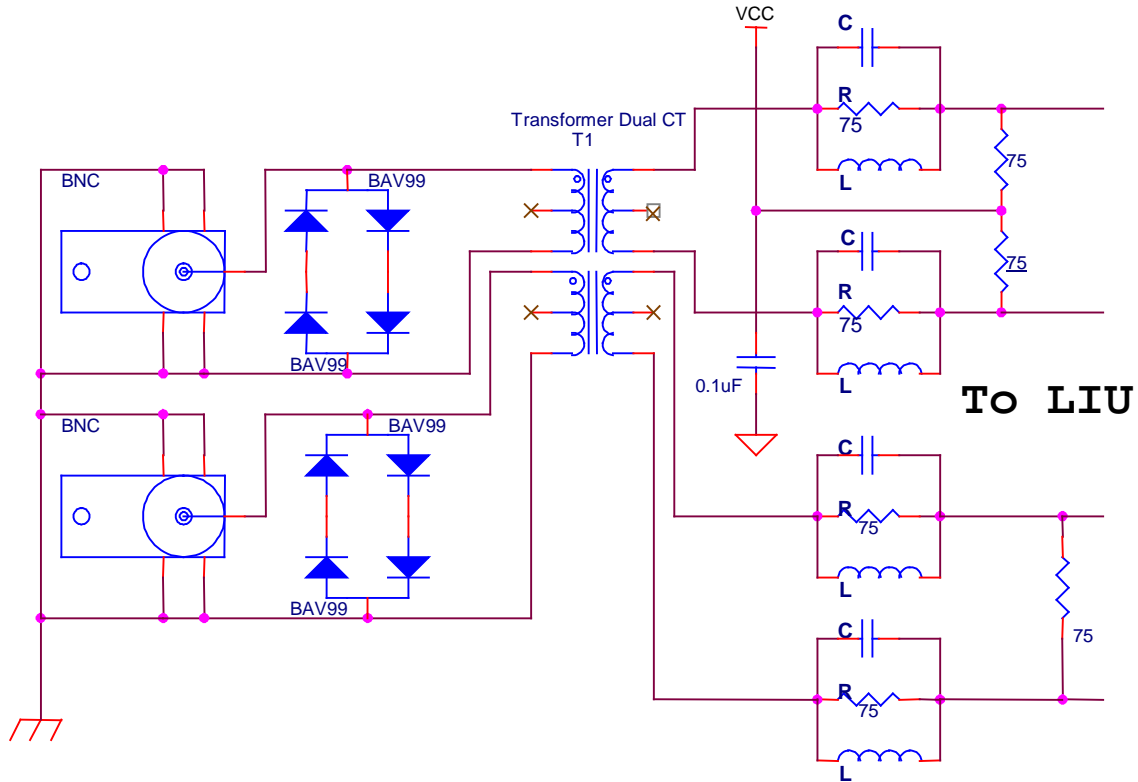

Figure 8. (Optional) Discrete components to improve the return loss
For challenging environments where the coax connector, transformer, and LIU are not located near each other or even on the same card, a flexible termination scheme is required to meet the return loss performance for both transmit and receive paths. The diagram in Figure 8 below shows a suggested circuit to optimize the impedance on the transmission lines by adding discrete component footprints right near the transformers in the differential paths. The capacitance (C) and inductance (L) values are unique for each design and will generally be in the range of a few nH or pF.